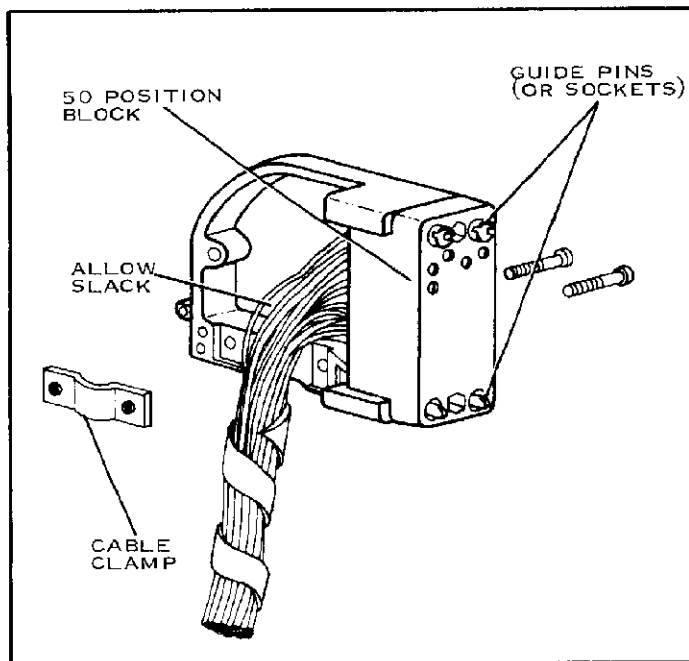

FIGURE 2
1. Place the Block (normally the half with the socket contacts) in the Latching Shield. Figure 2.